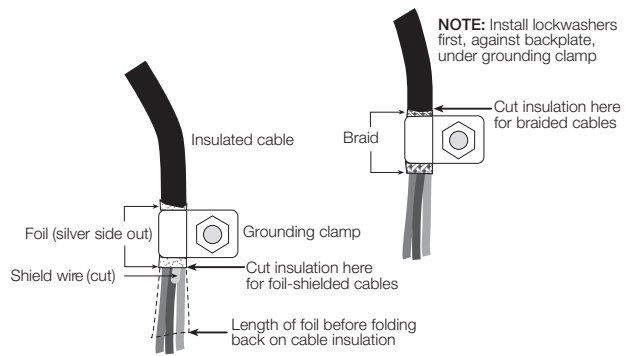

Figure 1-2. Grounding Clamp Attachment for Foil-Shielded and Braided Cabling
- For cables with foil shielding, strip insulation and foil from the cable half an inch (15 mm) past the grounding clamp (see Figure 1-2). Fold the foil shield back on the cable where the cable passes through the clamp. Ensure silver (conductive) side of foil is turned outward for contact with the grounding clamp.
- For cables with braided shielding, strip cable insulation and braided shield from a point just past the grounding clamp. Strip another half inch (15 mm) of insulation *only* to expose the braid where the cable passes through the clamp (see Figure 1-2).
- Route stripped cables through cord grips and clamps. Ensure shields contact grounding clamps as shown in Figure 1-2. Tighten grounding clamp nuts.